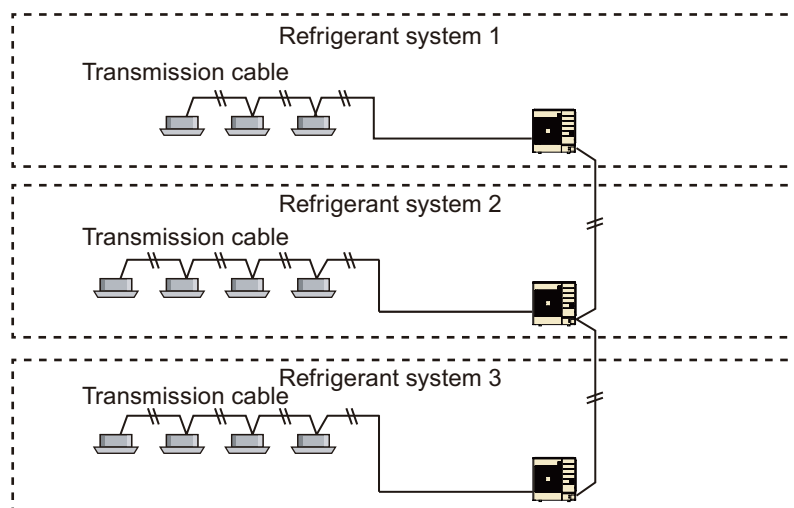
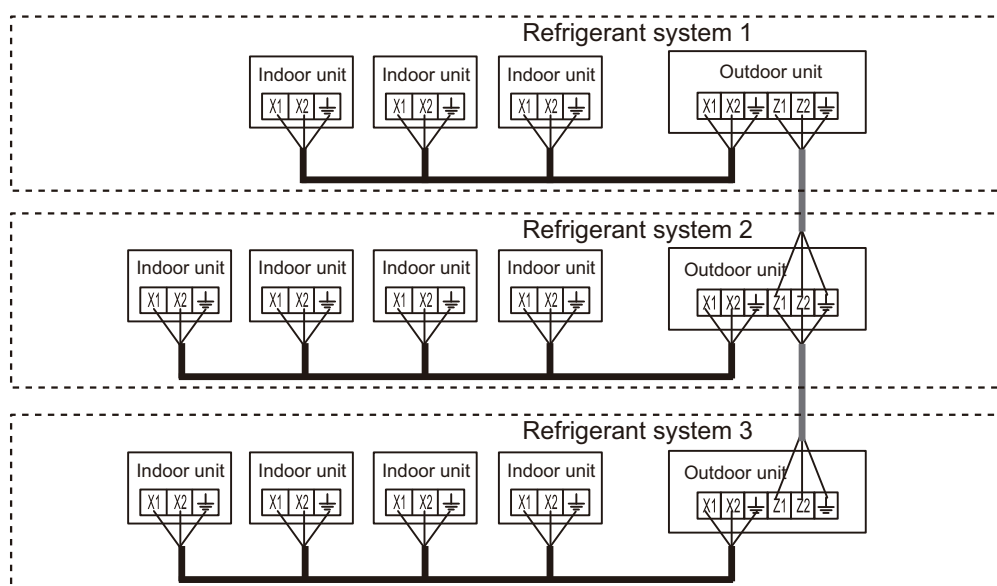

Fig. 1
Fig. 2
$AB + BC + BD + DE + EF > 500 \text{ m}$ (Fig. 1)
- Total transmission cable length: 3,600 m (Fig. 2)
Connect the transmission cable like as Fig. 1 and Fig. 2